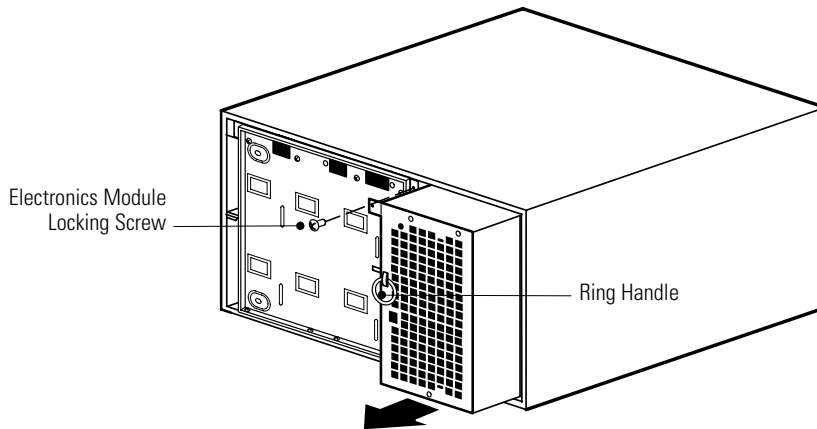

Figure 21. Removing the Electronics Module
10. Remove the electronics module and set it aside (see Figure 21):
- 17. Reinstall the electronics module locking screw (see Figure 21 on page 38).